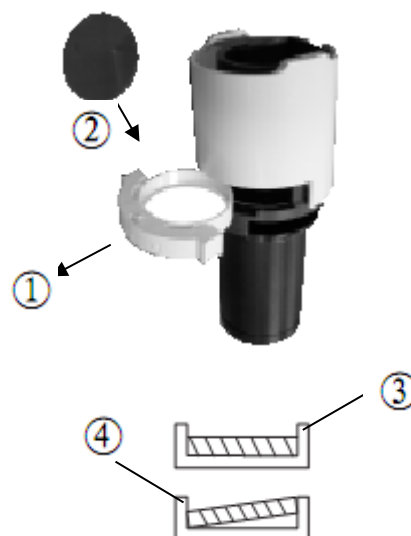

Fig.11
2-2-7 Installing the color filters (Fig.11)
Push the filter down to the bottom as shown in Fig.11 ③ so that it does not tilt. If the filter is inclined or is not pushed down to the bottom④, it may fall off the filter holder.